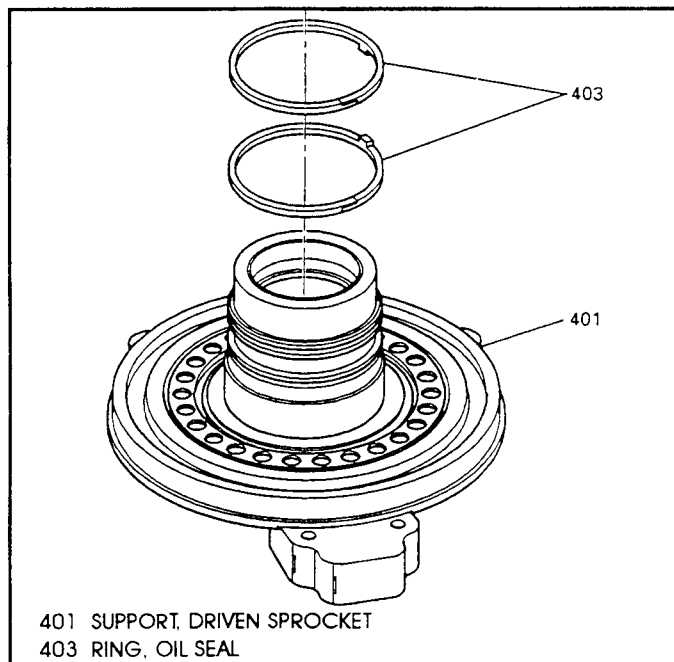

Figure 159
8. Install two new sealing rings (403) onto driven sprocket support as shown in Figure 159.